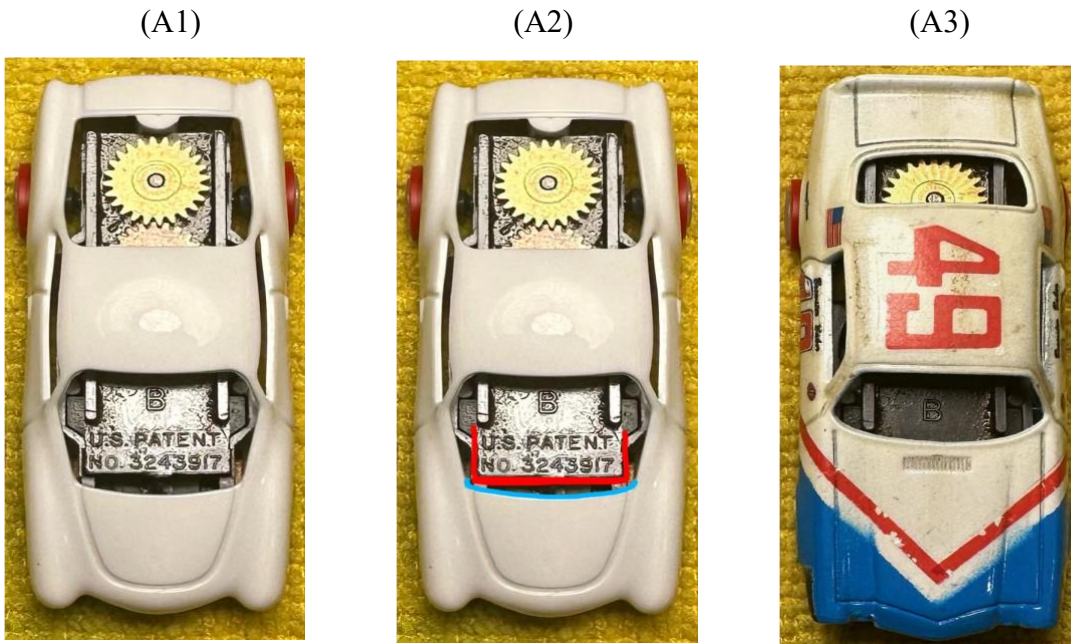

Figure 1. Gear Plate Coverage Examples
6. Bodies must have a hood that covers a portion of the top plate. See Appendix Figure 1 for clarification.
8. Bodies must contain the two (2) original molded-in screw posts in their original position. Screw posts must remain intact and shall not be relocated to suit a different setup or wheelbase. Additionally, the posts shall be those designed as part of the body specifically for mounting on an *Aurora ThunderJet* Chassis.
10. Bodies must be fastened securely to the chassis using two (2) screws.
1. The first car body shown in Figure 1 (A1) is **illegal** as the hood does not cover the top plate. The hood is the body structure in front of the front windshield as outlined in blue on the second picture (A2). The third picture (A3) is a legal body. All stock bodies we have surveyed so far comply with this requirement.